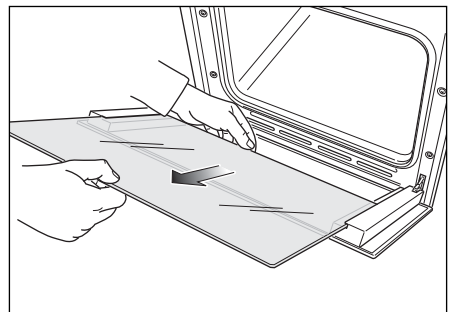

Fig. 23d
- Gently pull out the inner pane of glass (Fig. 23d).